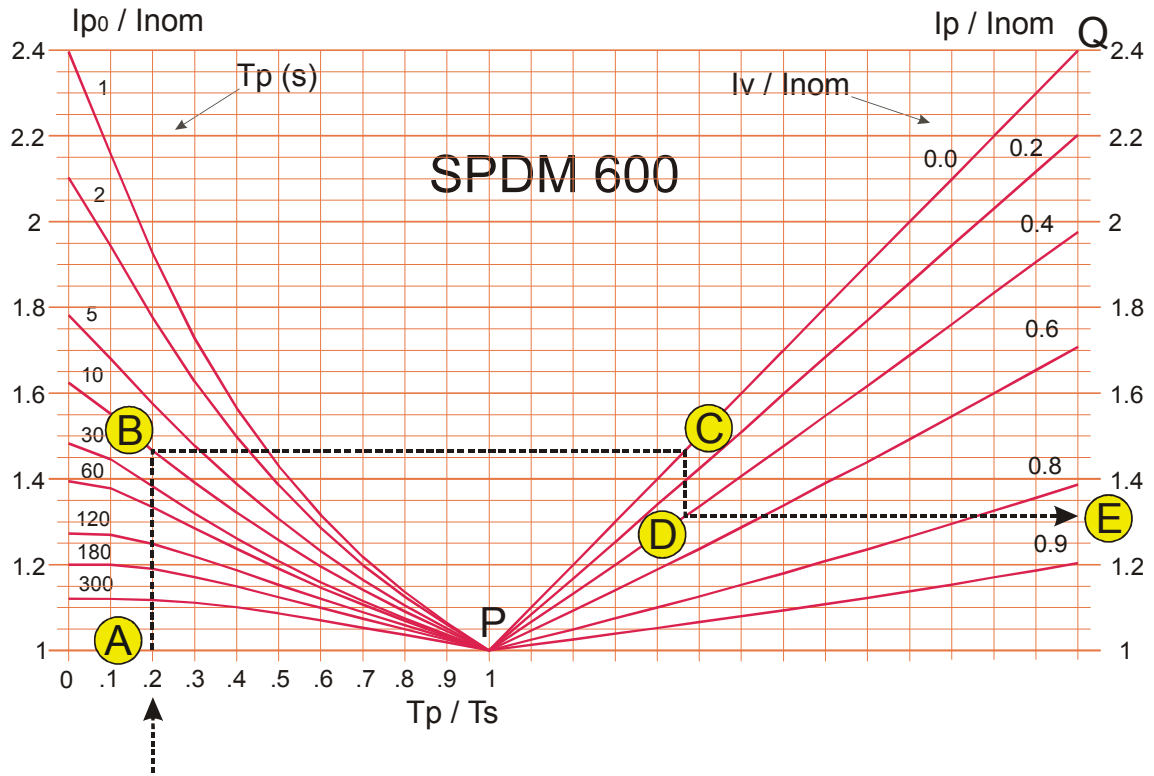

Figure 4
A curve family is related to each converter represented by a diagram; Fig. 4 shows, as example, the diagram related to Silcopac SPDM 600 converter (nominal current  $I_{nom} = 600$  A). The diagram is normally used to evaluate the  $I_p$  value starting from the known values of  $I_{nom}$ ,  $I_v$ ,  $T_p$  and  $T_s$  in the following way:
- from the Fig. 4 example: